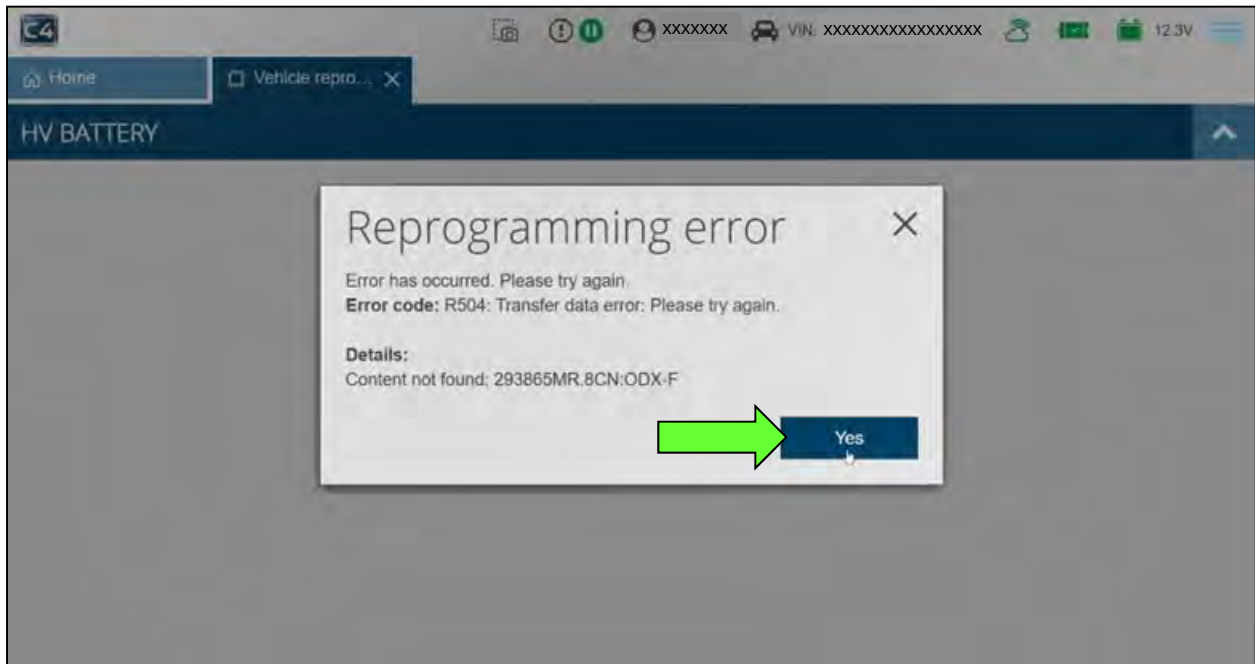

Figure 10
27. Did “Reprogramming error” display (Figure 10)?
IMPORTANT: Do not disconnect the VI3 or shut down CONSULT-4 if reprogramming does not complete. If the screen in Figure 10 displays, reprogramming did not complete.